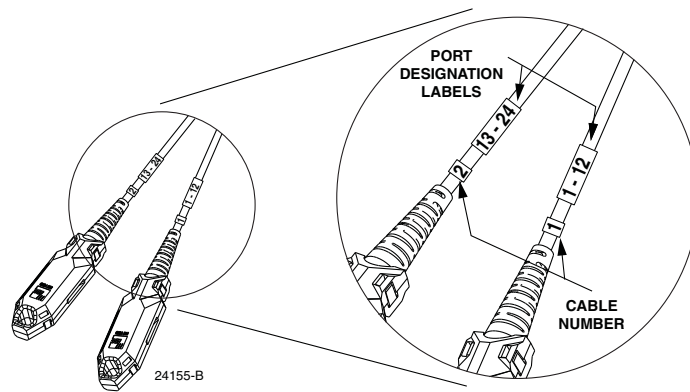

Figure 61. Cable Number and Optical Port Designation Labels
- c. Connect the microcable MPO connector to the appropriate equipment MPO connector. Labels are attached to each microcable, as shown in Figure 61.